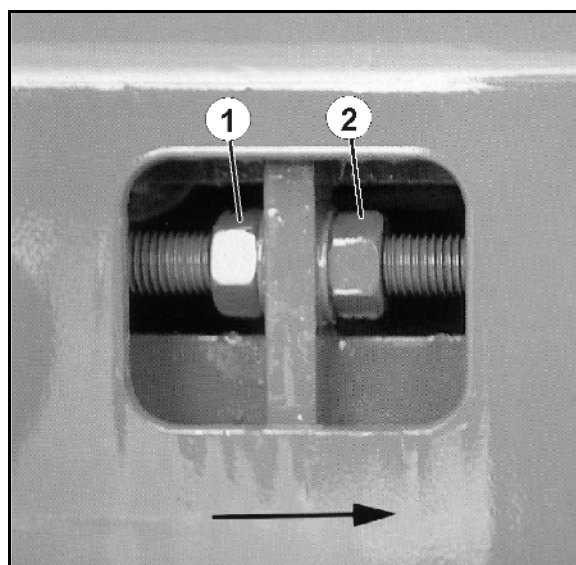

Fig. 113
1. Loosen the rear lock nuts on both sides when viewed in the direction of travel (see arrow) (Fig. 113/1) by turning them anti-clockwise.
2. Turn the nuts on both sides evenly to the left when viewed in the direction of travel (see arrow) (Fig. 113/2).
The adjustment travel of the nuts (Fig. 113/2) must be equal on both sides of the floor belt. Do not turn either nut (Fig. 113/2) more than a ½ spanner turn. Tighten the lock nuts and check whether the belt conveyor is driven evenly again.